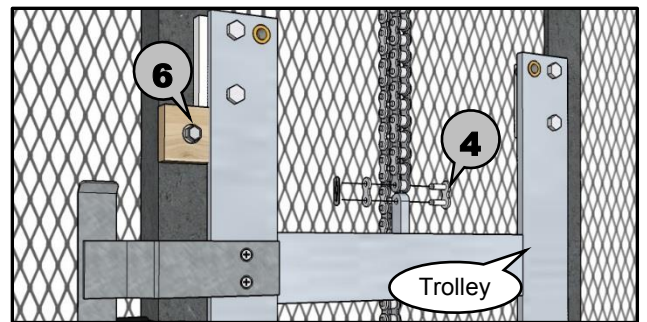

Figure 11
- 4** Use provided master link, attached near the top of the trolley with a plastic tie, to connect chain to top end of trolley. (see Figure 11)
- 6** Some machines may have a trolley stop screwed to the track for shipping purposes, and it should be removed at this time. (see Figure 11)